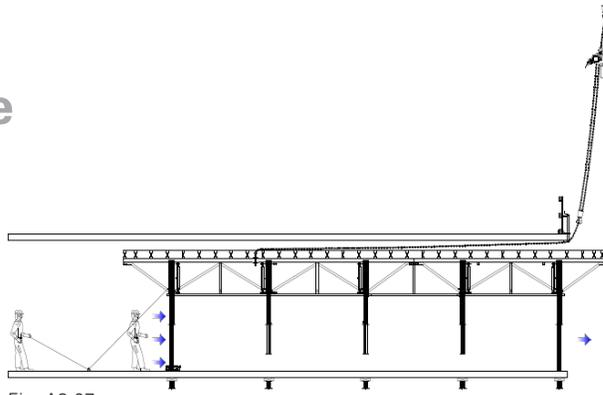

Fig. A3.07
7. Restrain table to control its outward movement, and begin to push SKYTABLE table out of the building.(Fig. A3.07 & A3.08)